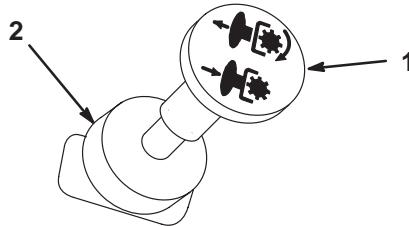

Figure 6
4. Move the PTO (power take off) to Off (Fig. 6).
2. Move the PTO to Off (Fig. 6).